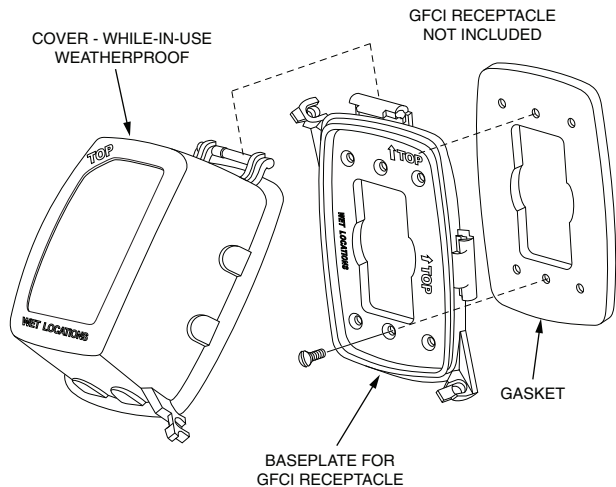

Fig. 22 — Weatherproof Cover Installation
- Mount the weatherproof cover to the backing plate as shown in Fig. 22.